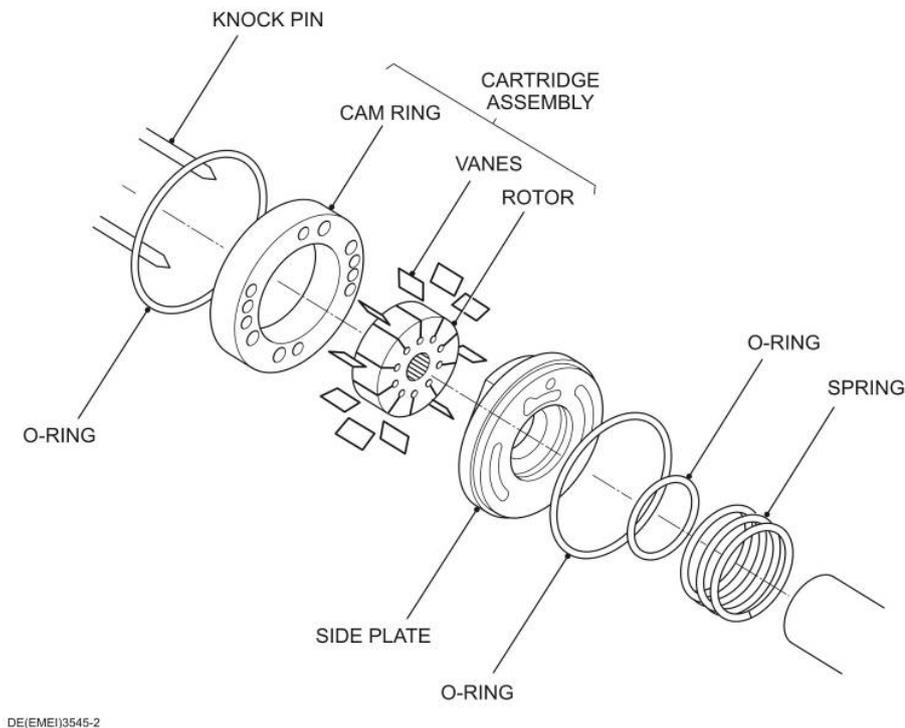

Figure 150 Power Steering Pump - Exploded View
- b. **Cartridge Assembly.** Inspect the wearing surfaces of the body, cam-ring and rotor for scoring or excessive wear. Remove light score marks by lapping and replace heavily scored or badly worn parts. Inspect the vanes for burrs, wear or excessive play in the rotor slots. Replace badly worn or scored parts (Figure 150).